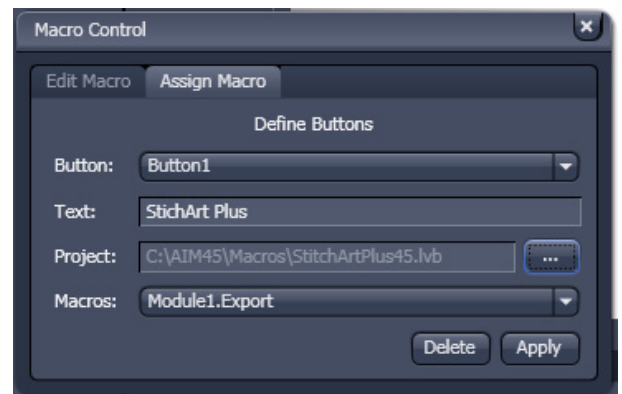

Fig. 8 Macro Control window – Assign Macro
- Press the **Assign Macro** tab to switch to the **Assign Macro** panel (see Fig. 8).